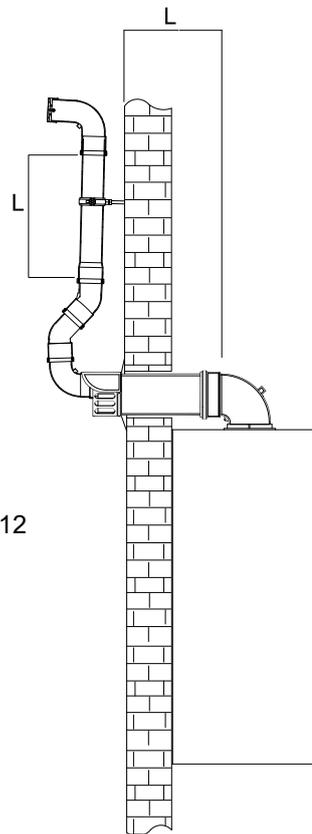

Fig. 12
This appliance will produce a plume of condensation in cool weather. This is due to the High Efficiency and hence low flue gas temperature of the boiler. A plume management kit is available. (see section 5.6 fig 12)
5.6 PLUME MANAGEMENT KIT (Fig 12)
| TER110101 (Fig. 12) | 1 metre high plume kit containing: n. 1 terminal bend n. 1 90° elbow bend n. 2 45° bend n. 1 metre 60 M-F flue length n. 1 flue length bracket | |